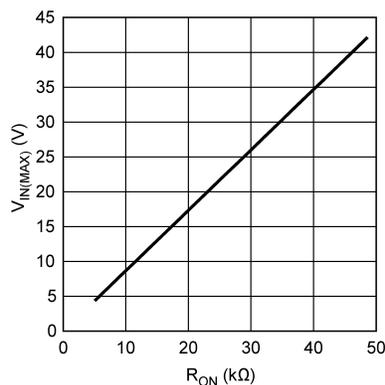

Figure 7. Maximum V_{IN} for selected R_{ON}
If R_{ON} calculated from (2) is smaller than the minimum value determined in (8), a lower frequency should be selected to re-calculate R_{ON} by (2). Alternatively, V_{IN(MAX)} can also be limited in order to keep the frequency unchanged. The relationship of V_{IN(MAX)} and R_{ON} is shown in Figure 7.